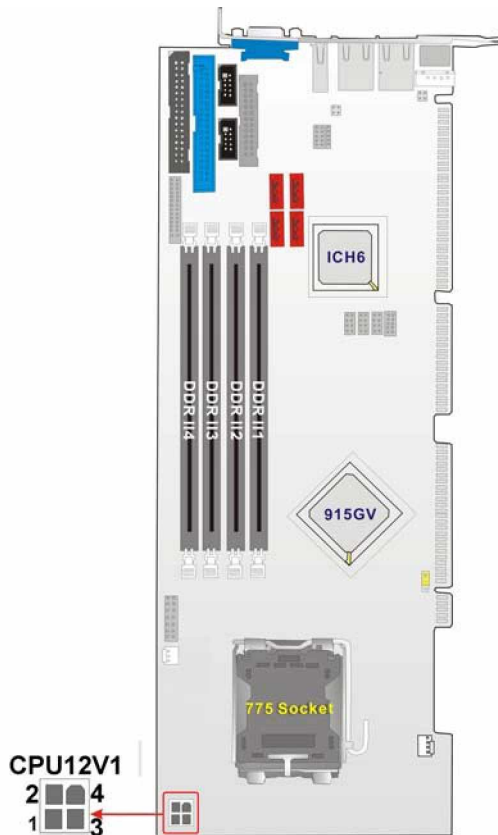

Figure 3-17: ATX Connector Location
- CN Location:** See Figure 3-17